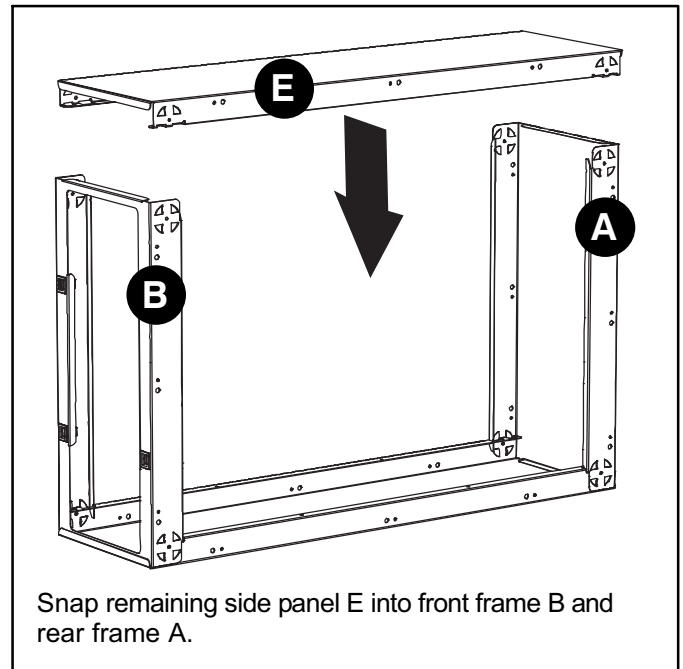

Figure 5. Assemble Remaining Side Panel (E)
4. Align and insert remaining side panel E into front frame B and rear frame A. Firmly press down until each corner has snapped into place (see figure 5).